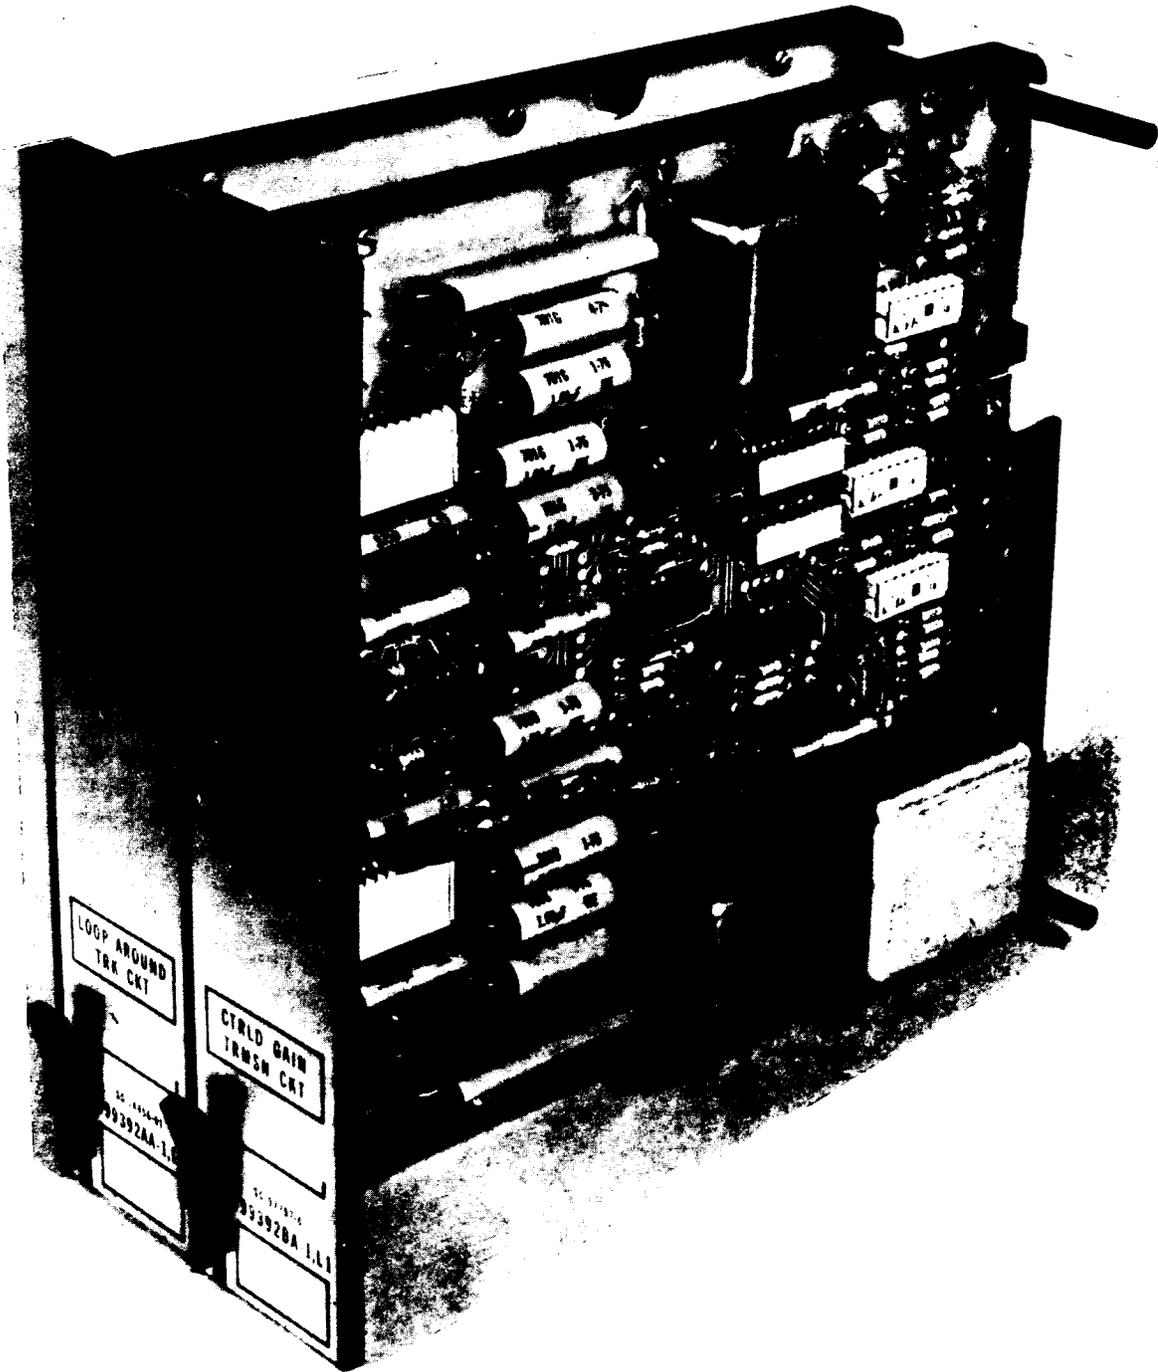

Fig. 2 — J99392AA Loop Around Trunk Circuit And J99392BA Controlled Gain Transmission Unit
1.07 The J99392AA loop around trunk circuit (Fig. 2) is a plug-in unit that provides the interface and control circuitry between the controlled gain transmission circuit and the ESS switching machine. This unit consists of components mounted on a double sided printed wiring board, supported in a plastic card holder, with an adhesive backed designation label attached to the front face of the holder. Connections to the shelf are through the gold plated connector at the rear of the unit. The unit occupies a space of 1-3/4 inches wide by 8 inch high and 9 inches deep in the RSTC shelf.
1.08 The J99392BA controlled gain transmission unit plug-in (Fig. 2) provides selective gain for trunk-to-trunk connections on 900-ohm circuits. Pre-determined values of gain and loss are voice controlled in this unit. Physically, the J99392BA is the same size as the J99392AA and is mounted on the same type board and card holder. This transmission unit is designed specifically for use in RSTC and is not a general purpose terminal-to-terminal repeater.